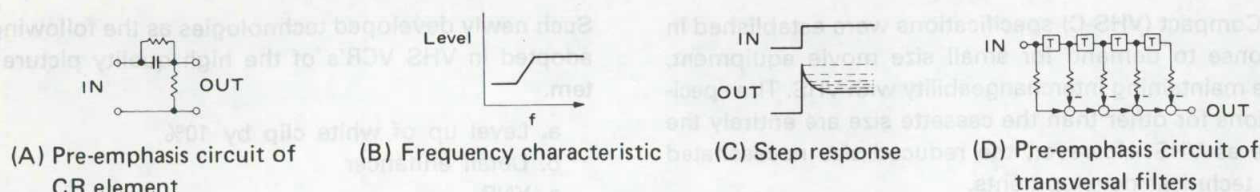
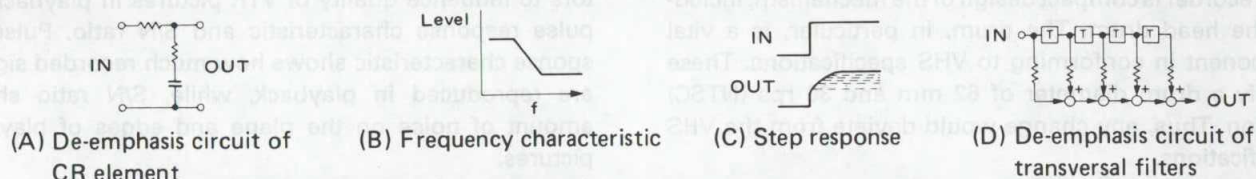

Fig. 3-4-1 Pre-emphasis circuit and relationship
Fig. 3-4-2 De-emphasis circuit and relationship
Fig. 3-4-1 and Fig. 3-4-2 illustrate pre-emphasis and de-emphasis circuits and relationship between them.
Note: T's in Fig. (D) of Figs. 3-4-1 and 3-4-2 are delay element of transversal filters to delay time for a certain period.